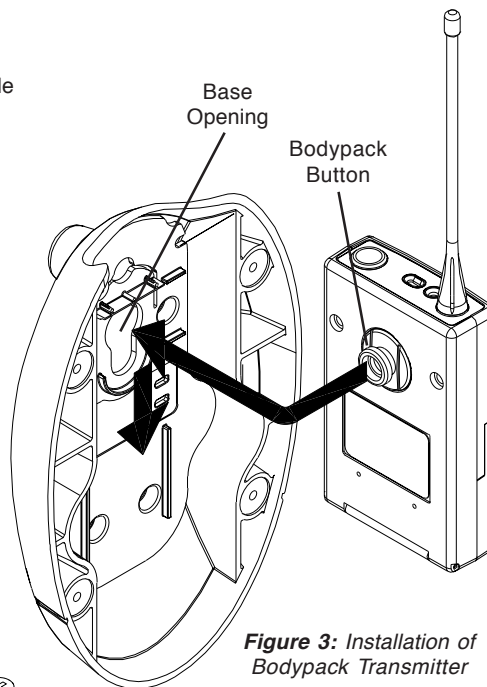

Figure 3: Installation of Bodypack Transmitter
- 3) Insert bodypack into Satellite (see figure 3). “Bodypack” button inserts into opening on bottom plate. Push bodypack into plate, and slide down as shown.